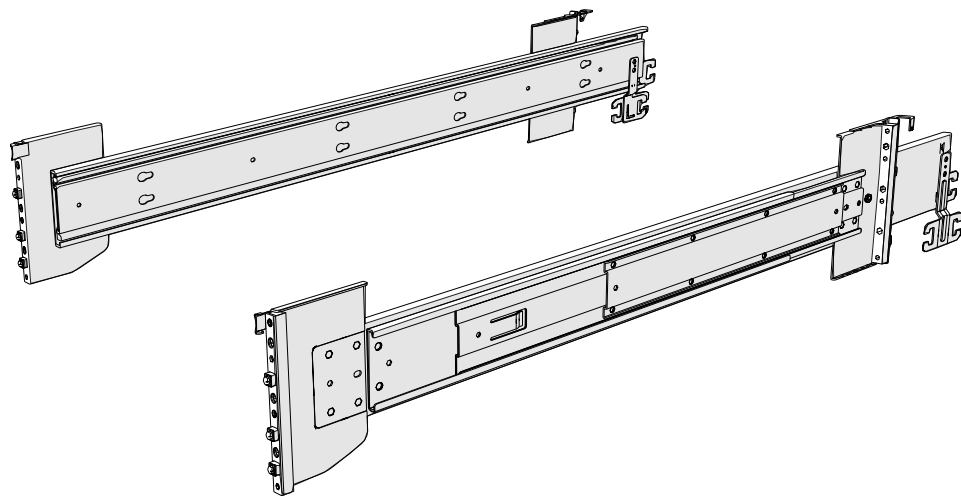

Figure 34. Support rails
1. Locate the hardware that is used to install the rails, including the M4xL6 and M5xL13 screws. Set the hardware, which is shown in Figure 34, aside for use later in the installation process.